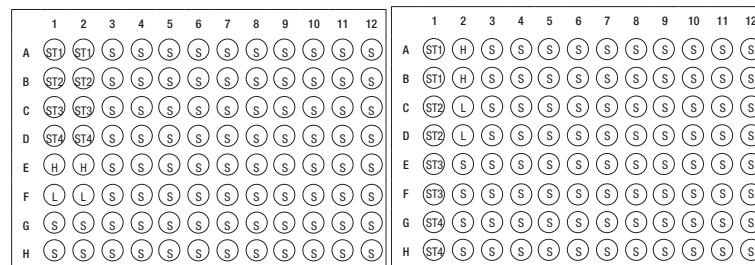

Figure 3. Suggested plate layouts
- Prepare 2 (duplicate) wells for each of the four standard curve dilutions (2,000 to 0 pg/mL), 2 wells for each high and low controls, and enough wells for all specimens to be tested. See Figure 3 below for examples of plate layout: